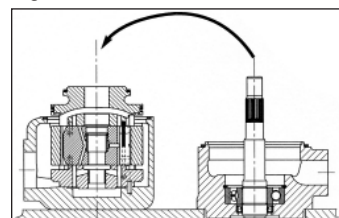

Figure 69
8. Assemble the front cap ass'y on the housing & cartridge ass'y (**Fig. 69**).